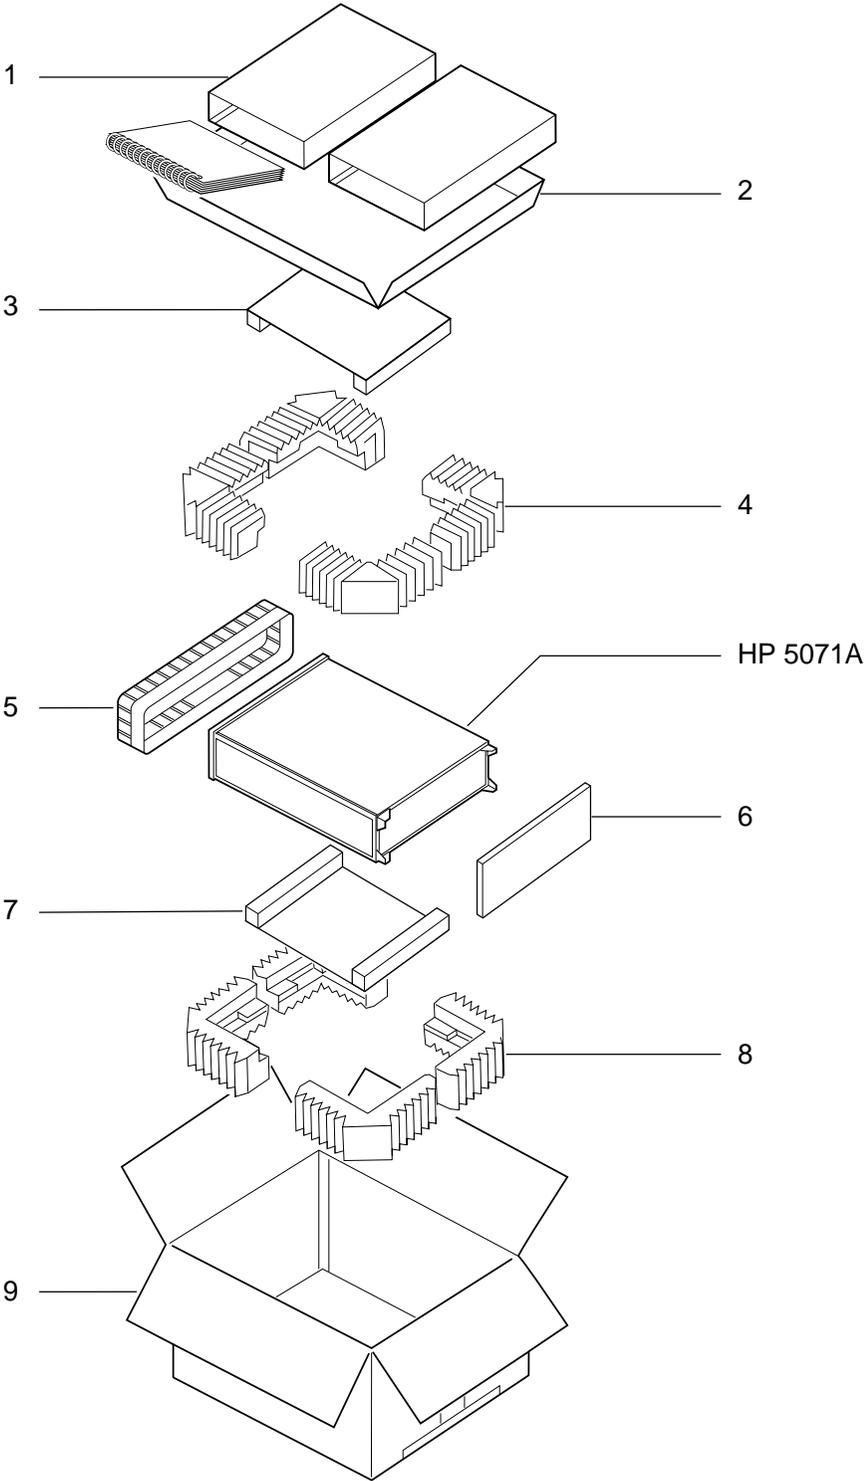

Figure 7-2. 5071A Packing Exploded View
- 1** Pack the instrument as shown in Figure 7-2, on the next page, using the instructions provided with the packing kit. (You do not need to return the manual and power cord.):